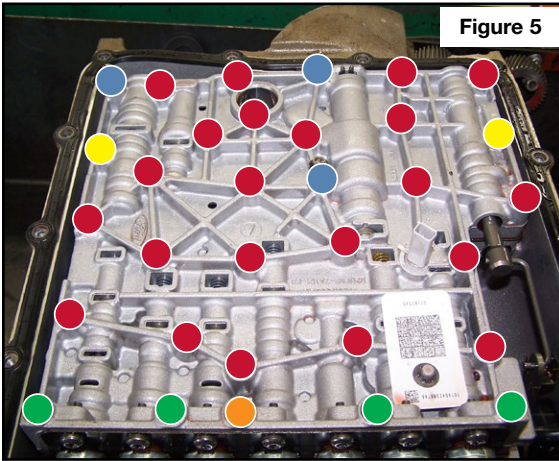

Figure 5
- b. Remove three bolts securing the filter to valve body (yellow & orange), then remove filter (Figure 5).
- c. Remove three valve body-to-case bolts (blue) (Figure 5).
- d. Remove four (green) valve body half retaining bolts (Figure 5).
- b. Remove 22 red valve body bolts (Figure 5). The valve body halves may now be separated, using two pry points (Figures 9).